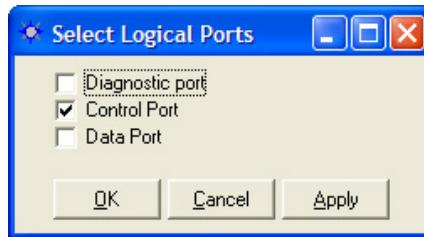

Figure 129: Select Ack/Nak Ports
- ✓ Select *Receiver > Setup > Select Ack/Nak Response Ports* to configure the Control, Data, and/or Diagnostic Ports for Ack/Nak response. The *Select Logical Ports* window opens (see Figure 129).